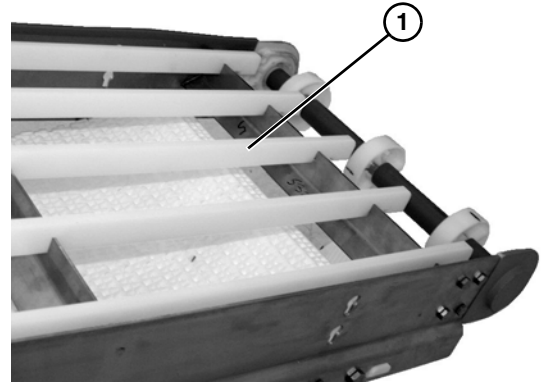

Figure 27
2. Remove worn wear strips (**Figure 27, item 1**) from frame notches.